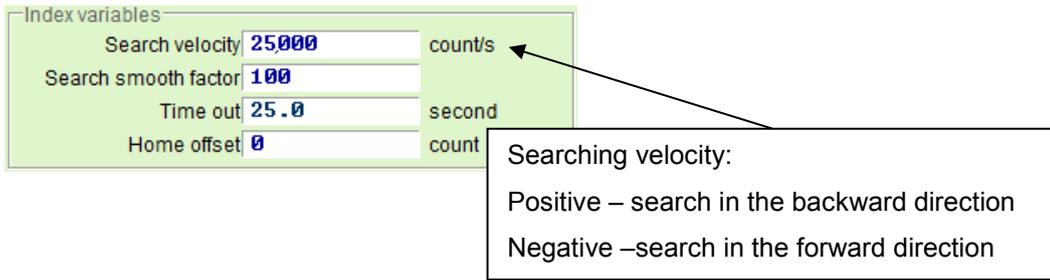

Figure 1-2 Homing variables setting
In the drive’s operation system (OS), there is a function named **_X_init_exec**. This function is for homing, and is built in the drive. By using **call _X_init_exec** in the programming code, the homing method is performed by directly searching the index signal. Variables for homing can be set at the “Homing” page in the “Application center” of Lightning program, as Figure 1-2 shows.
In this sample code, **X_stop_m** was used to stop motor and **X_index_vel** was used to set the speed and direction of searching index. Take this sample code as an example. **X_stop_m = 1** is used to stop motor, and **X_index_vel** is the same as the value of "Search velocity" in Figure 1-2.